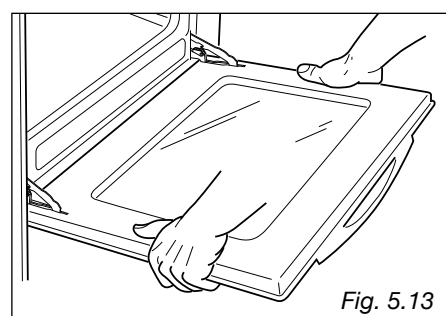

Fig. 5.13
- Hold the door as shown in fig. 5.13.